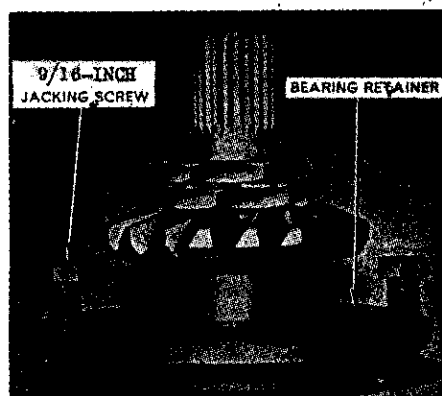

Fig. 315—Removing bevel pinion bearing retainer with jack screws.
screws as shown in Fig. 315. Straighten tabs on locking washer (49—Fig. 314) and remove nuts (50) and (48); then press shaft (41) and bearing (42) out of retainer (44) and associated parts.